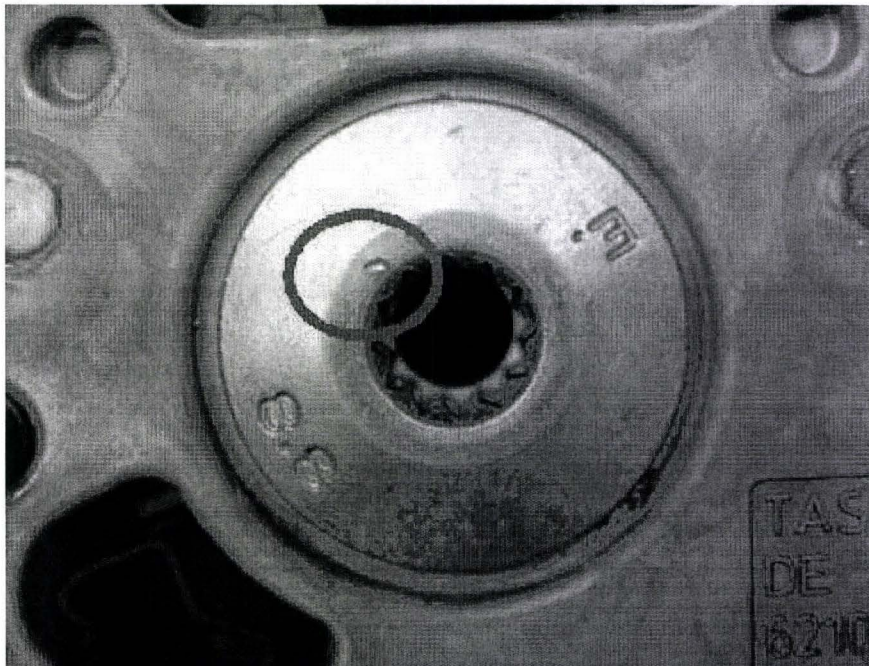

Figure 4
4. Are there any dot punch indentations on the steering wheel securing bolt (Figure 4) indicating that the steering wheel has been previously removed?